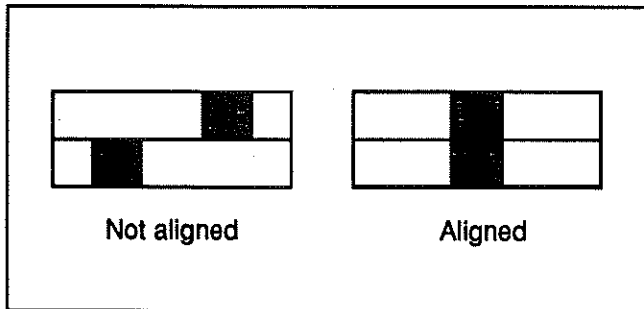

Fig. 43
5. Look through the top port hole of unit A, and turn horizontal knob until split images are aligned. See figure 43.